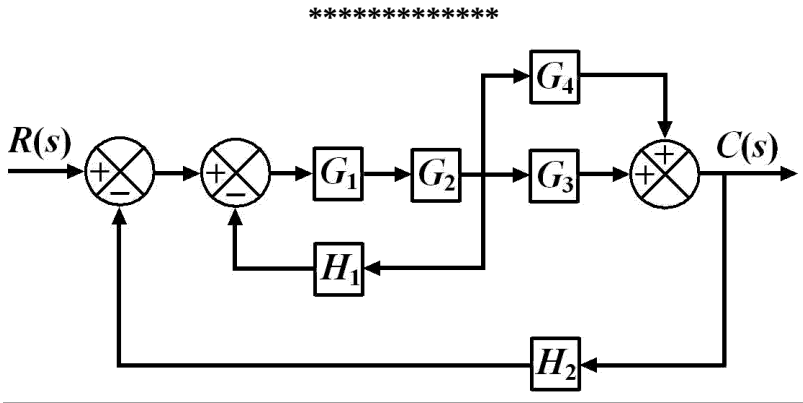

Figure 1, Q.2 (c)
- (7) Define 'Stability' of a control system.
- (8) The time required for the transient damped oscillations to reach and stay within a specified tolerance band is known as _____ time.
- (9) List out any TWO limitations of Hurwitz criterion.
- (10) State any TWO disadvantages of Frequency Response Analysis.
- (11) Draw the block diagram of PID controller.
- (12) Give names of any TWO basic elements of hydraulic system.
- (13) What is the function of Pressure Relief Valve?
- (14) Draw the symbol of Variable Throttle Valve.
- (c) Obtain overall transfer function of the system whose block diagram is shown in Figure 1, explaining the major steps of reduction involved. **07**